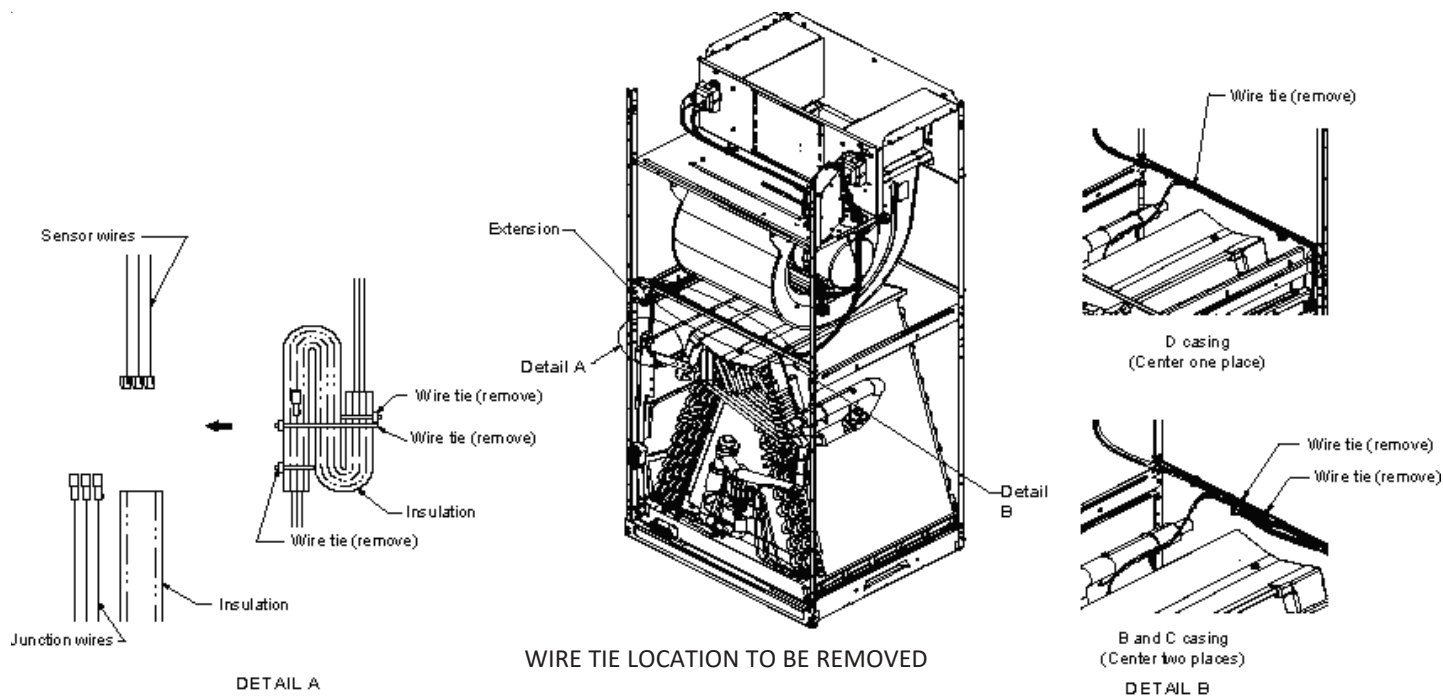

FIGURE 2-1
1. Before flipping the air handler, remove blower access panel and coil access panel. The coil access panel and tubing panel may remain screwed together during this procedure. Remove and retain the seven (7) screws securing the coil access panel to the cabinet and the six (6) screws securing the blower access panel to the cabinet.
2. Before removing the coil remove the wire ties holding the sensor wire harness to the center support. Remove the insulation covering the wire connectors and disconnect the wires. Do not cut or damage the insulation covering the junction connectors since it will be required to secure the wires once the change is complete. See Figures 2-1 and 2-2 for wire tie location manifolds, copper lines or the flowrator.